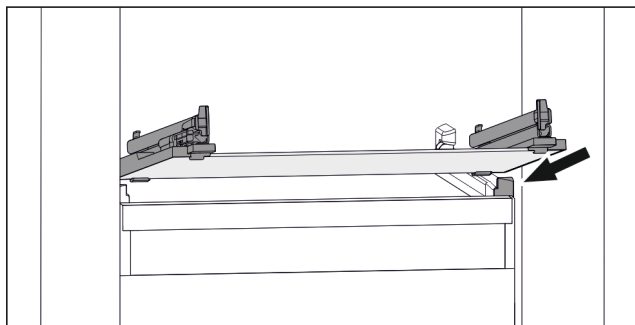

Fig. 115 Example illustration of glass shelf
- Position glass shelf at an angle behind the stoppers. (see Fig. 115)